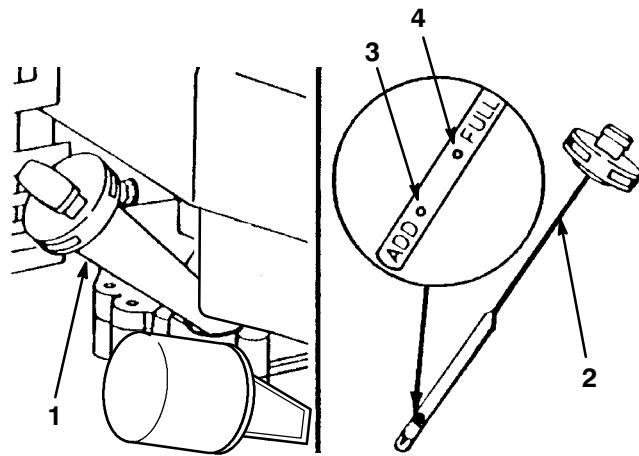

Figure 8
Before each use, ensure that the oil level is between the *Add* and *Full* marks on the dipstick (Fig. 8).
2. Clean around the dipstick (Fig. 8).
6. Read the oil level on the dipstick (Fig. 8).